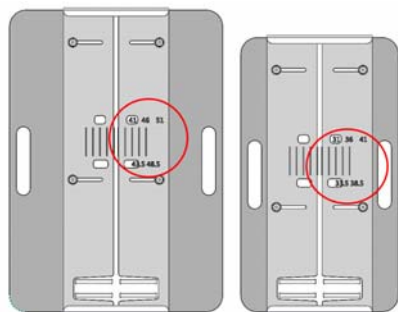

Figure 5-84
5.3.5.13 The adjustable ranges can be divided into two groups, one for adults and the other for children. (Figure 5-84)